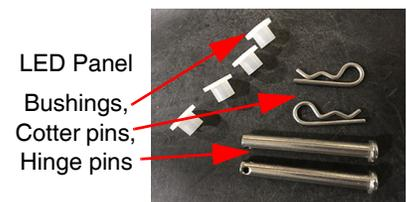

FIGURE 22
1. Locate LED Panel components. See FIGURE 22.